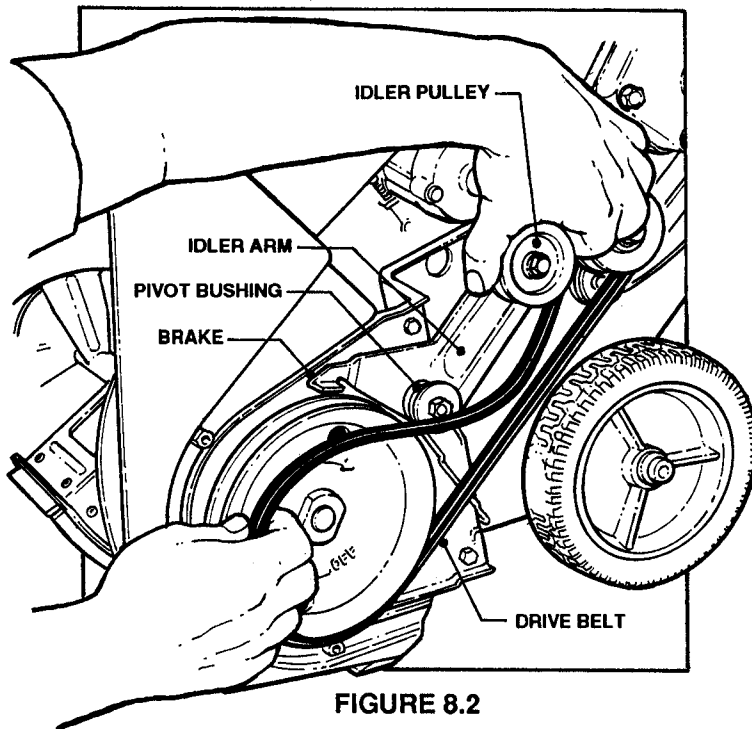

FIGURE 8.2
- (1) Remove Belt Guard.
- (2) Roll Drive Belt off bottom of Auger Pulley (if Belt is not broken).
- (3) Press down on Idler pulley and remove Drive Belt from under Brake. See Figure 8.2.